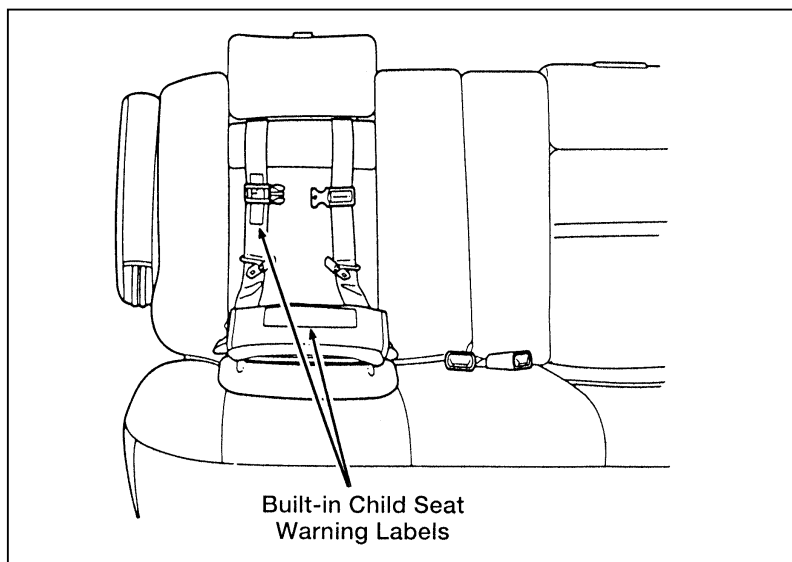

Figure 3: Child seat information and warnings
2. Lower the seat cushion. Refer to Figure 3. The child safety seat will move to a semi-reclined position as the seat cushion is lowered.
3. Read the information and warnings on the child seat cushion protector flap and shoulder safety belt. Refer to Figure 3. Check the child's size, weight and age to be sure the child is not too small or too large for the child seat. Then fold the flap down onto the adult seat cushion.
1. Fold the protector flap over the child seat cushion. Refer back to Figure 3.